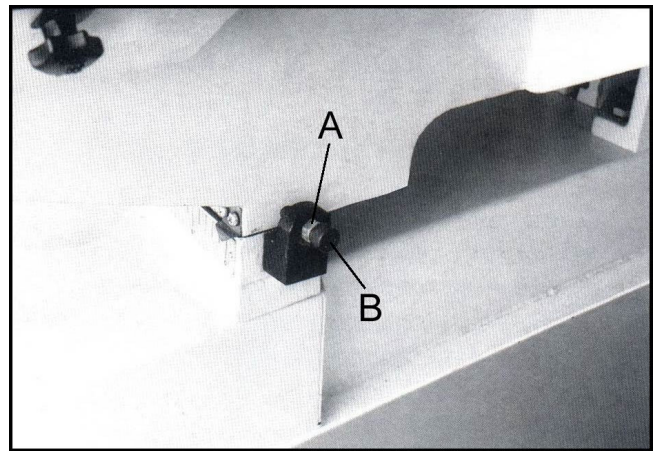

Fig. 13
5. Loosen the lock nut (A, Fig.13).
6. Adjust the hex cap screw (B, Fig.13) until the blade is at a 90° angle to the fixed vise jaw.
7. Tighten the lock nut (A, Fig.13).